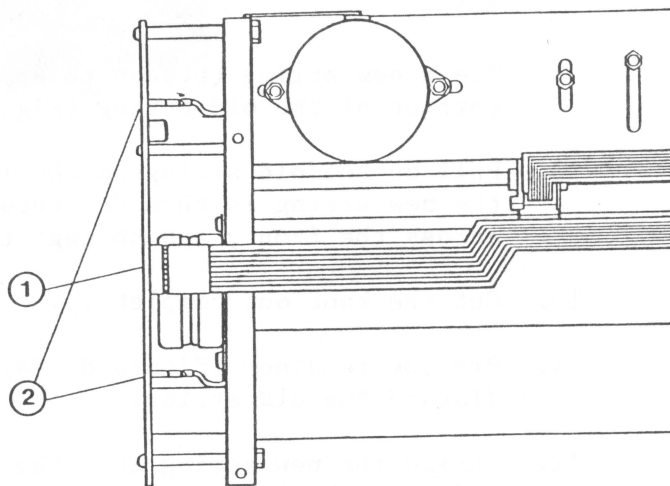

FIGURE 10
4. Turn the chassis up and disconnect the print head cable (Figure 10, #1).
5. Disconnect the left margin switch connector (Figure 10, #2).
NOTE: On the EMI version of Silentype, the left margin switch consists of two wires, as shown in Figure 10. Earlier Silentypes have only one wire (the rear one).